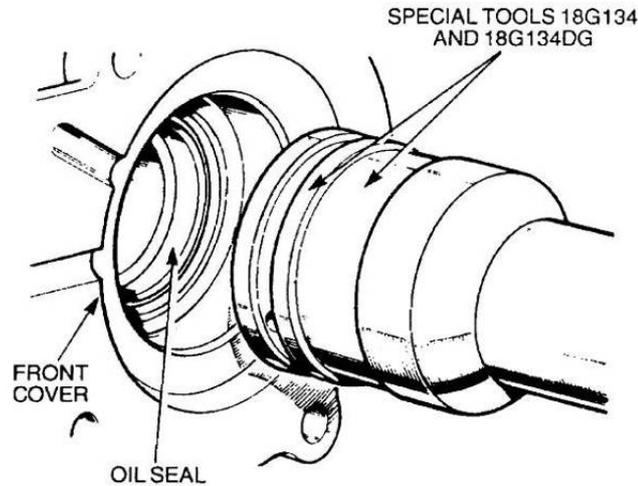

Figure 194 Installation of the Front Cover Oil Seal
- kk. Using special tools 18G134 and 18G134DG, press in the oil seal, plain face first (Figure 194), into the front cover.